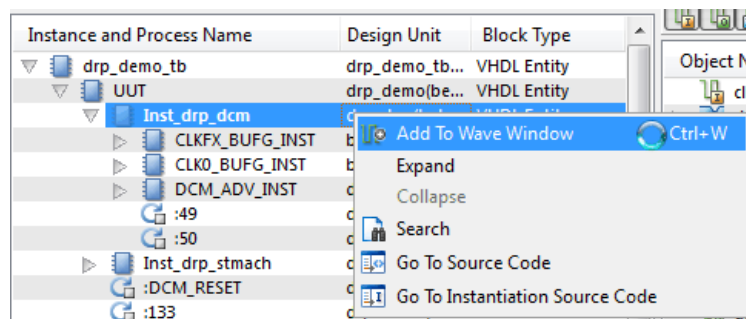

Figure 4-21: Add to Wave Window
- Select the `Inst_drp_dcm` design unit in the Instance and Process panel to highlight it. Then in the Objects panel, right-click on the input/output ports and select **Add to Wave Window** (Refer to Figure 4-21).